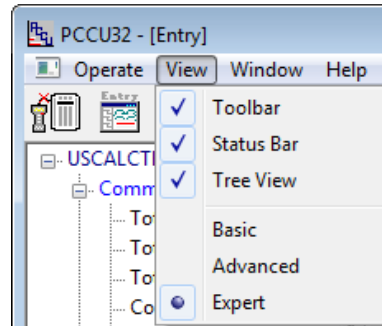

Figure 40: PCCU32 Expert view
2. Select the **Expert** option (Figure 40).